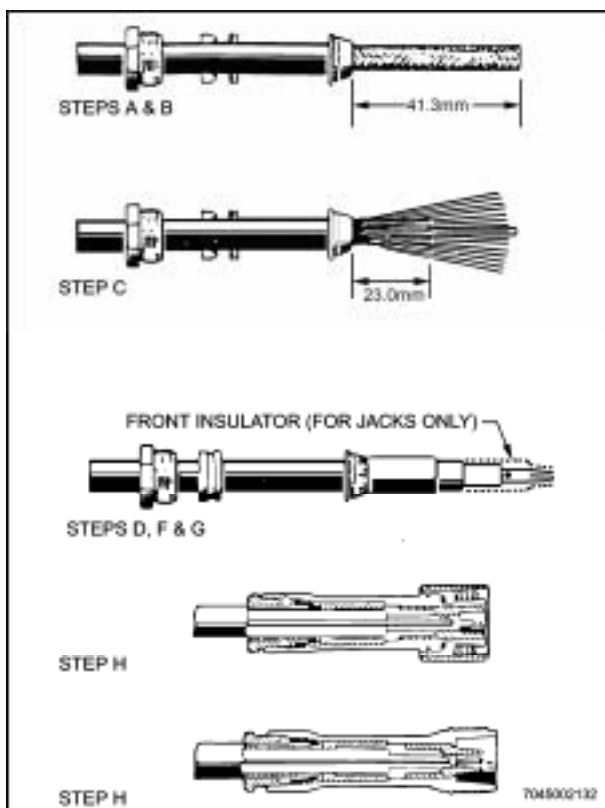

Figure 12-26 Attaching HN Connectors with Captivated Contacts to Coaxial Cable
19. When attaching HN connectors with captivated contacts to coaxial cable (see Figure 12-26), use the following procedure: